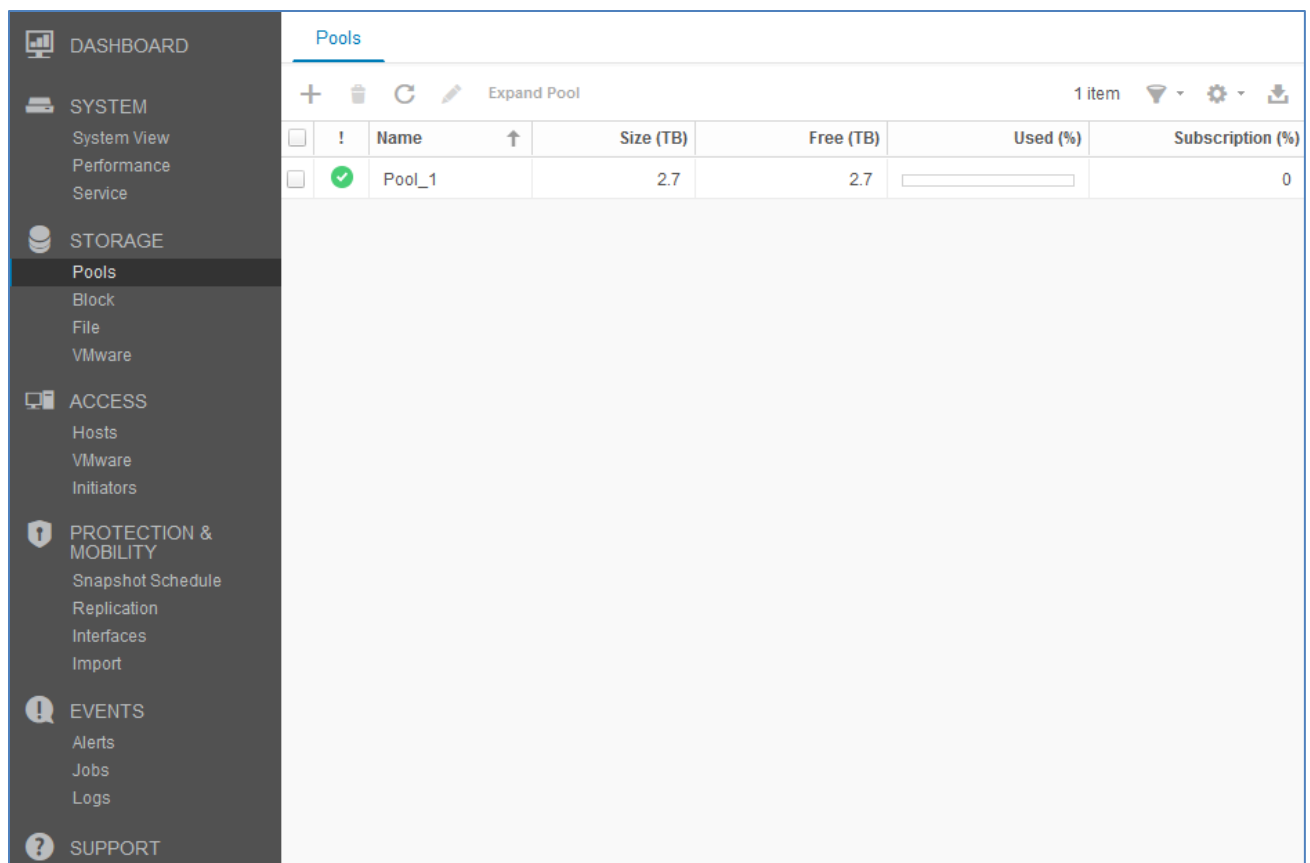

Figure 52 Storage pool created
9. The pool is displayed on the **STORAGE > Pools** page as shown in Figure 52.